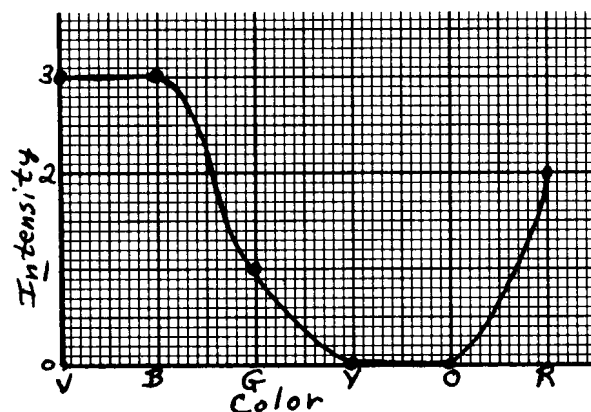

Figure 11. A sample transmission spectrum. The colors are violet, blue, green, yellow, orange, and red.
3. *Record your results* on a graph like Figure 11.
6. *Explore the transmission spectra* of some of the other filters. See if you can find the filter which produces the spectrum given in Figure 11. Also try combinations of filters.